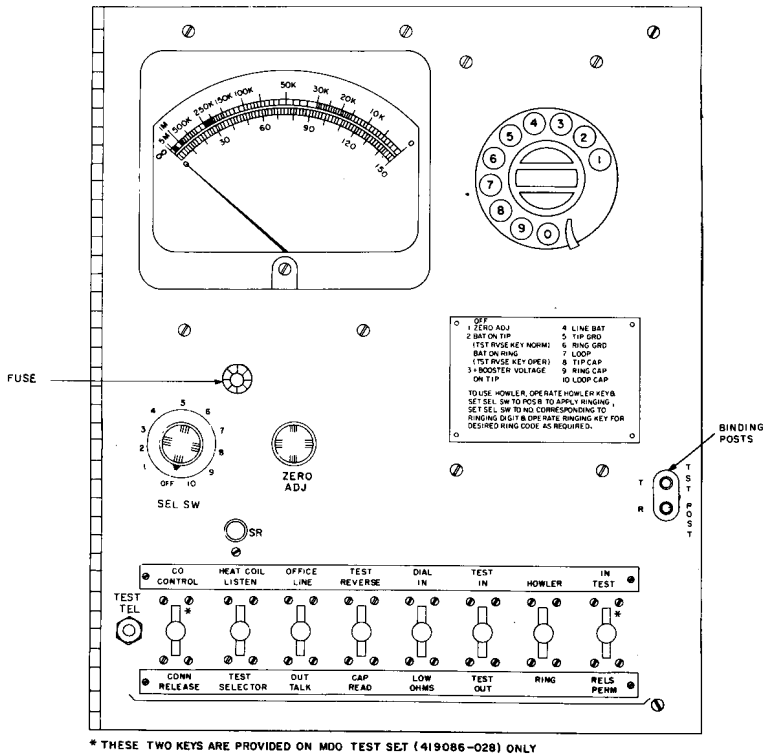

FIGURE 2 Wire Chief's Test Set, Type B, Controls and Indicators
3.04 **Controls and Indicators:** Tables A through E list the test set controls, indicators, and terminals that are shown in Figure 2 and describe the function of each.